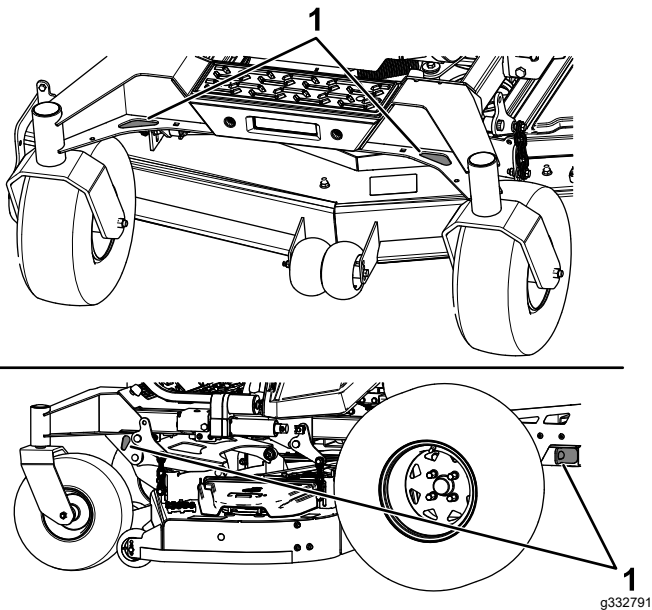

Figure 43
6. Tie down the machine near the front caster wheels and the rear frame with straps, chains, cable, or ropes (Figure 43). Refer to local regulations for tie-down requirements.